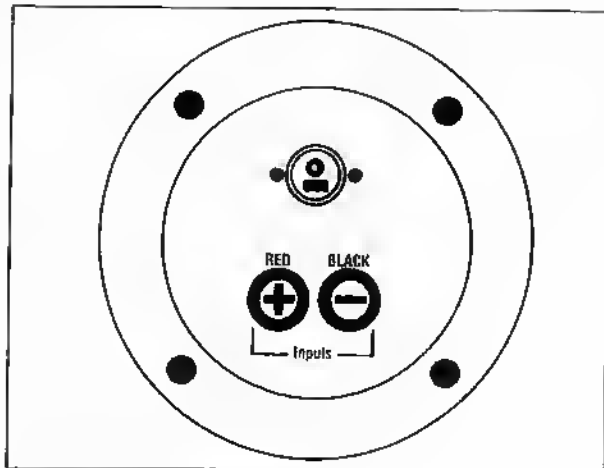

FIGURE 1. SDA Terminal Plate
5. Locate the interconnect cable packed with the right channel speaker. Walk around to the back of either speaker and locate the interconnect socket on the rear of the cabinet. (see Fig. 1). Align the plug properly with the socket and push it gently but firmly into place until it is fully seated against the socket. To remove the plug, grasp it by the molded body (not by the insulated cord) and pull gently outward.